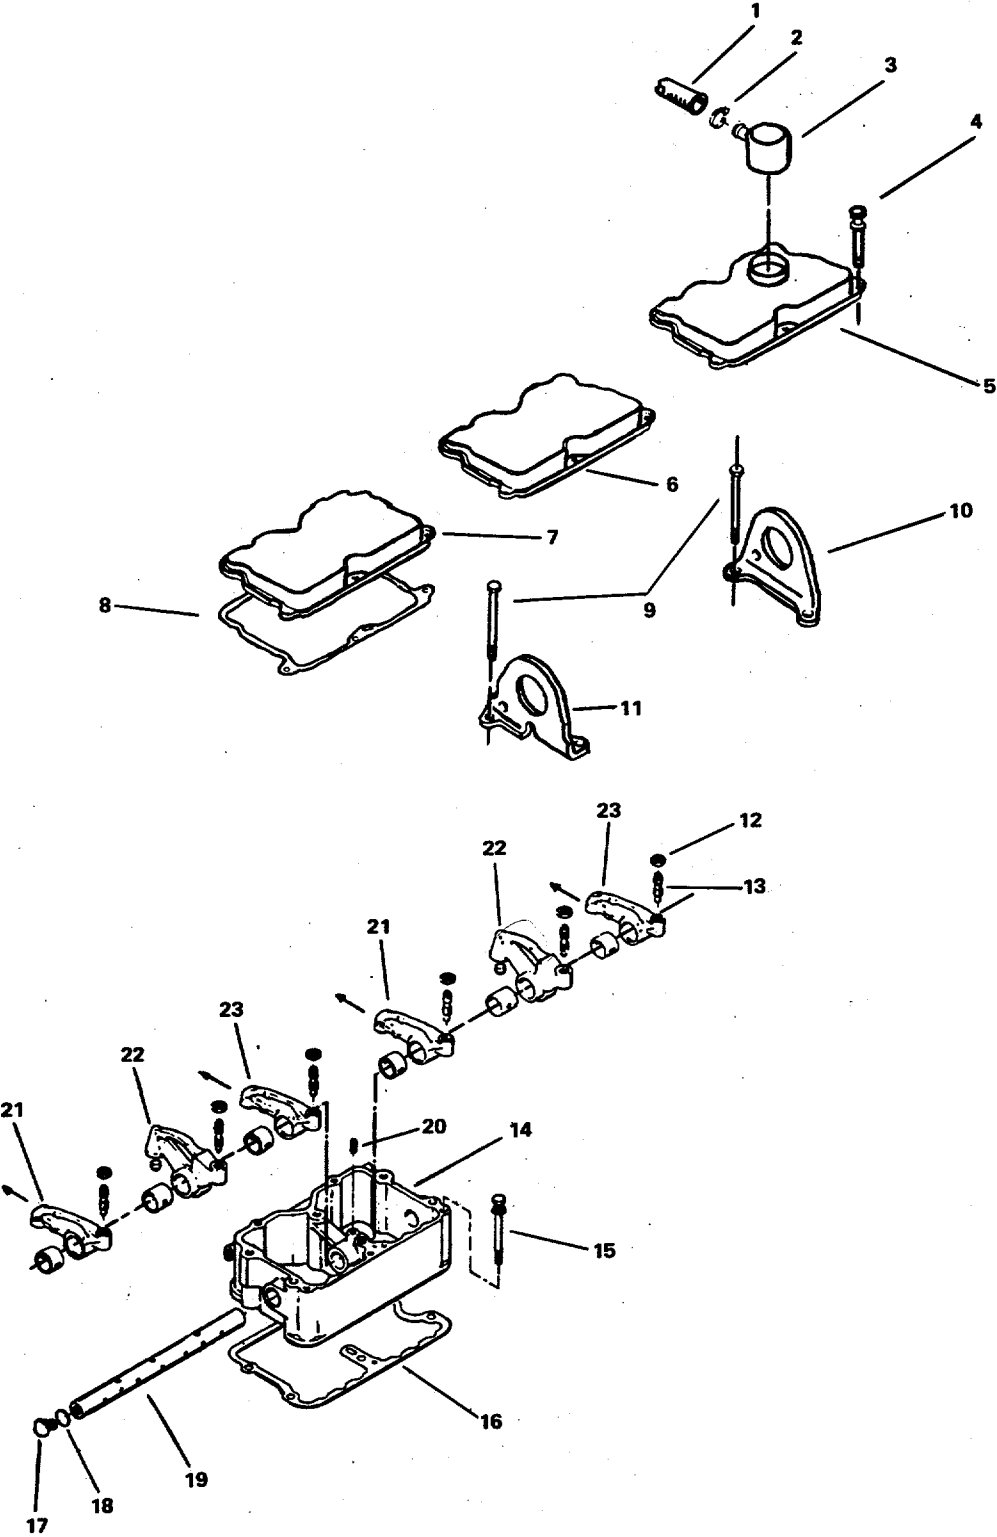
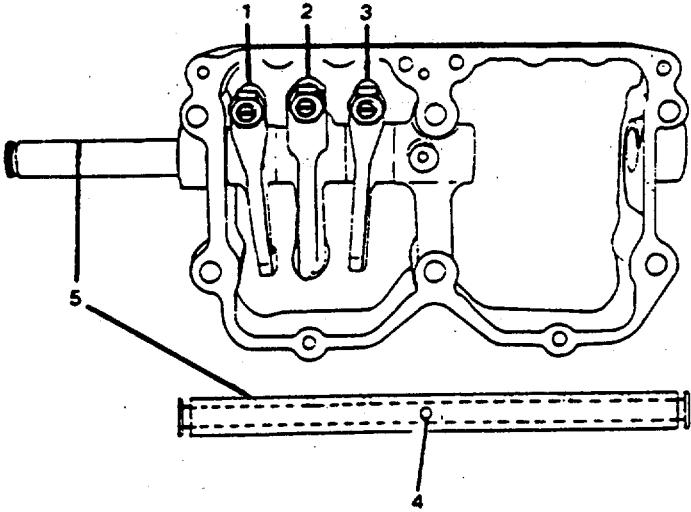

FIGURE 3-13. Rocker Lever Housing Group.
FIGURE 3-14. Set Screw and Oil Passage Holes.
- (1) Loosen the hose clamp (2, FIGURE 3-13) on nonmetallic hose (1).
- (2) Pull the breather (3) from the engine poppet valve rocker arm cover (5).
- b. Install machine thread plugs (17) in the straight shaft (19).
The setscrew hole (4, FIGURE 3-14) must be to the top and the seven oil passage holes (5) toward the flat side of the housing for correct assembly.
- c. Install, in their original location, the exhaust rocker arm (1, FIGURE 3-14), injector rocker lever (2), and intake rocker arm (3) as the shaft is pushed through the rocker lever housing.
- e. Install the preformed packing (18, FIGURE 3-13) as follows:
- (1) Push the straight shaft (19) until 0.50 inch (12.7 mm) extends from the rocker lever housing (14).
- (2) Lubricate the preformed packing (18) with vegetable oil.
- (3) Install the lubricated preformed packing.
- (4) Push the straight shaft (19) until the other end extends 0.50 inch (12.7 mm) from the rocker lever housing (14, FIGURE 3-13).
- (5) Install the lubricated preformed packing.
- f. Align the straight shaft (19) and the rocker lever housing setscrew holes. See (4) and (5), FIGURE 3-14.
- g. Install the setscrew (20, FIGURE 3-13).
- h. Repeat disassembly steps f through l and assembly steps a through h for the two remaining rocker lever housings (14).
- k. Install each rocker lever housing (14, FIGURE 3-13).
- (1) Install the ball end of the setscrews (13, FIGURE 3-13) in the push rod sockets.
(3) Install the assembled washer screws (15, FIGURE 3-13).
n. Repeat steps k through m for the two remaining rocker lever housings (14, FIGURE 3-13).